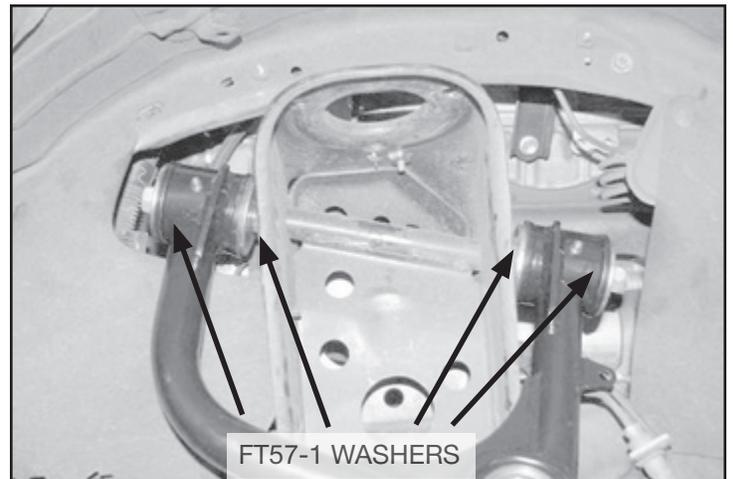

**FIGURE 26**
19. Install all these components in the control arm barrels. **SEE FIGURE 26**